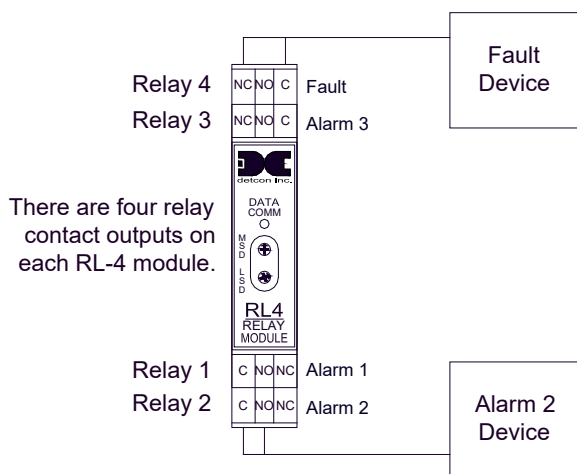

Figure 33 Model RL-4 Relay Output Module
There are four (4) Form C Single Pole Double Throw (SPDT), 5 Amp relays in each Model RL-4 module. Each relay in the module is assigned specifically to one alarm. Relay 1 is assigned to Alarm 1, relay 2 is assigned to Alarm 2, relay 3 is assigned to Alarm 3, and relay 4 is assigned to Fault. These can be used to control (fire) annunciating devices or as signal inputs to other control devices. Connections to the relay contacts of the RL-4 module are shown in Figure 33 and are labeled C (Common), NO (Normally Open) and NC (Normally Closed). Note that the 5 Amp rating of the relay contact should not be exceeded. RL-4 modules are installed on the DIN rail of the controller.